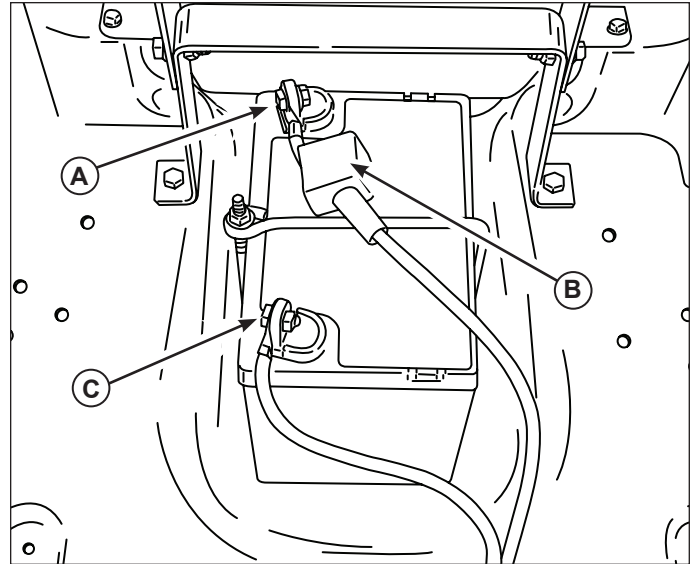

Figure 19. Battery Compartment
1. Disconnect the cables from the battery, negative cable first (C, Figure 19).
3. Reinstall the battery and reattach the battery cables, positive cable first (A).
5. Be sure to replace the terminal cover (B) over the positive battery terminal.